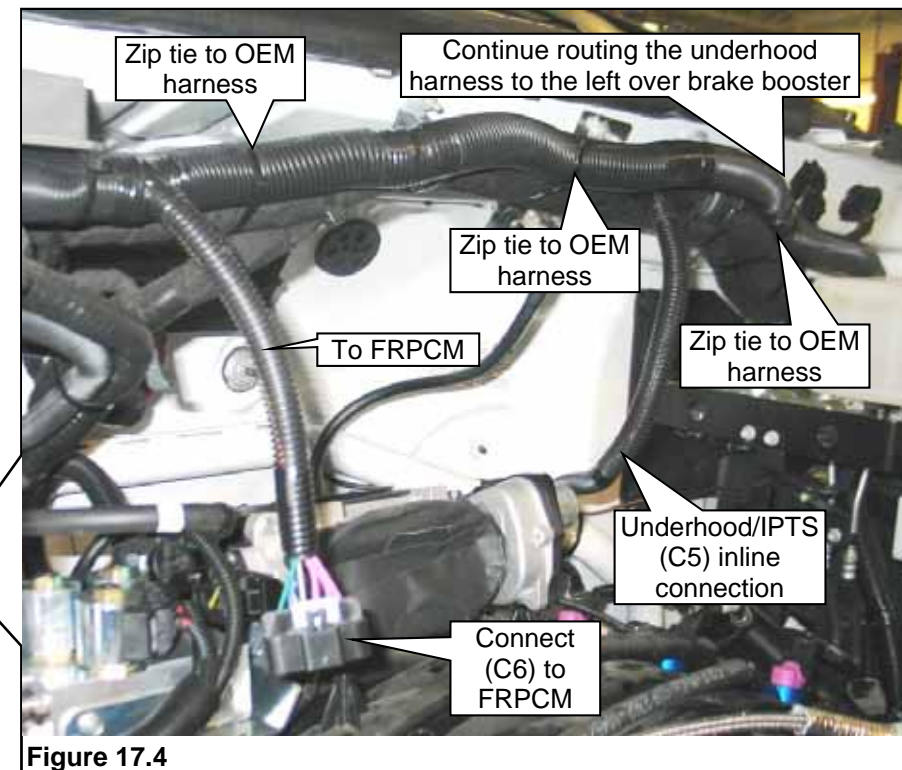

Figure 17.4
6. Continue routing the underhood harness across the cowl and down the left side of the brake booster. Use zip ties to secure the harness to the OEM harness along the way. **Figure 17.4.**